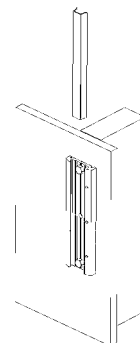

Figure 2. Install Screw Cover
4. Install screw cover (see Figure 2).